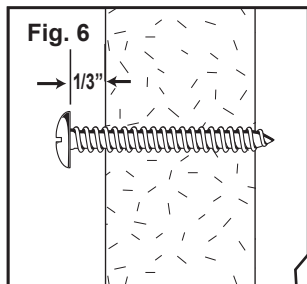
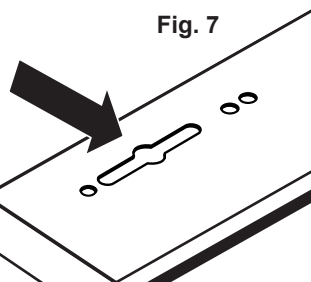
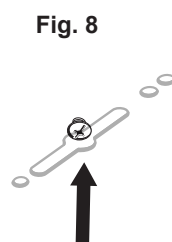
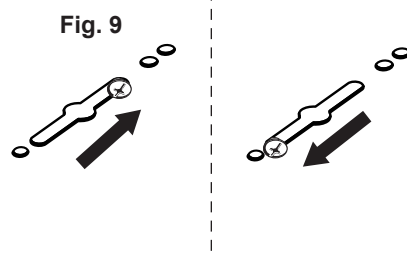

Fig. 6
Fig. 7
Fig. 8
Fig. 9
1. Fasten the mounting screws, leaving 1/8" between the surface and the back of the screw head (**Fig. 6**). Insert all 4 screw heads into the round openings in the elongated slots located on the back of the fixture (**Fig. 7**). Gently lift the fixture up to the mounting screws until the screw heads pass through the round holes in the middle of the elongated slots (**Fig. 8**). Slide the fixture either left or right to until the screw heads are captured (**Fig. 9**). Verify the fixture is secure, if not, remove, tighten each screw 1/4 turn and re-attach. Repeat until secure.